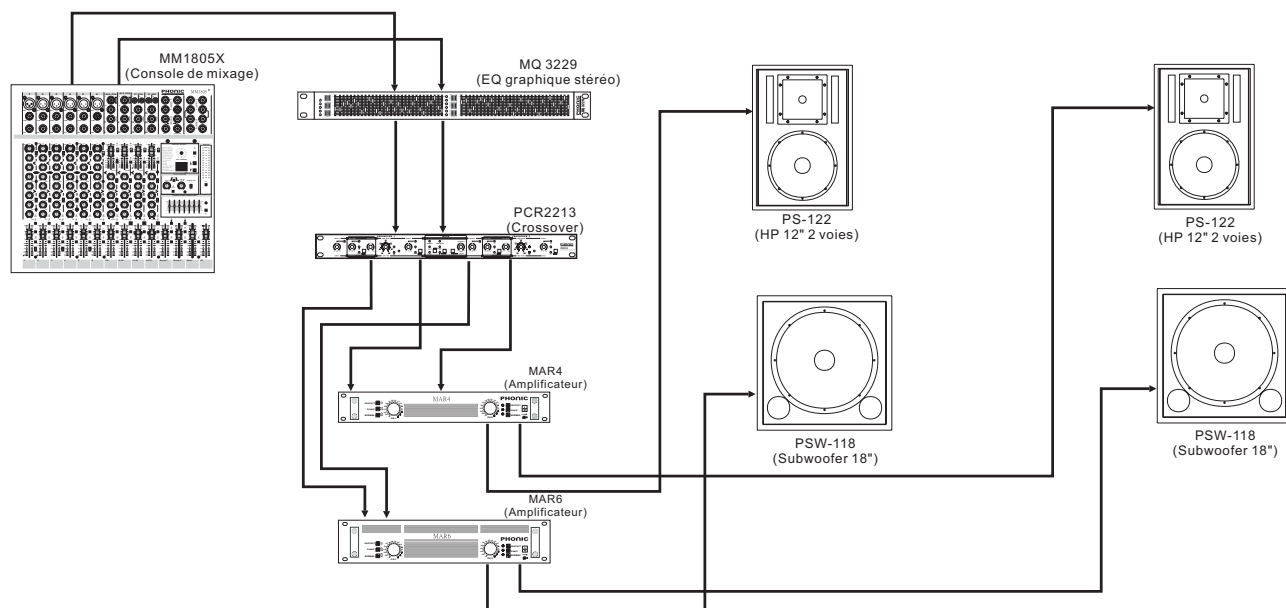

Figure 4 : Configuration active 2 voies + subwoofer typique
2.4 CONFIGURATION STÉRÉO ACTIVE, 2 VOIES, AVEC SUBWOOFER (cf. figure 4)